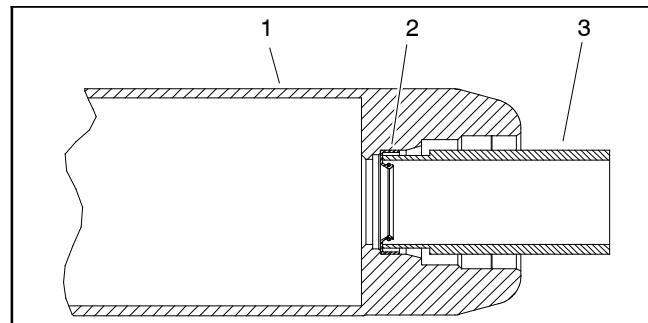

Figure 39
1. Install inner seals into roller tube making sure that seal lip (and garter spring) faces end of tube. Use inner seal tool (see Special Tools in this chapter) and soft face hammer to fully seat seals against roller shoulder (Fig. 39). Apply a small amount of grease around the lip of both inner seals after installation.